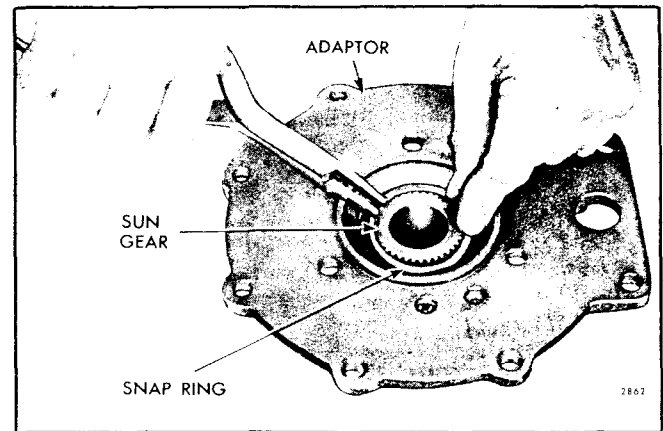

Fig. 42 - Removing or Installing Sun Gear Snap Ring (2.1:1 Ratio)
- b. Remove the snap ring from the groove in the sun gear with a pair of snap ring pliers as shown in Fig. 42, then lift the adaptor off of the sun gear.